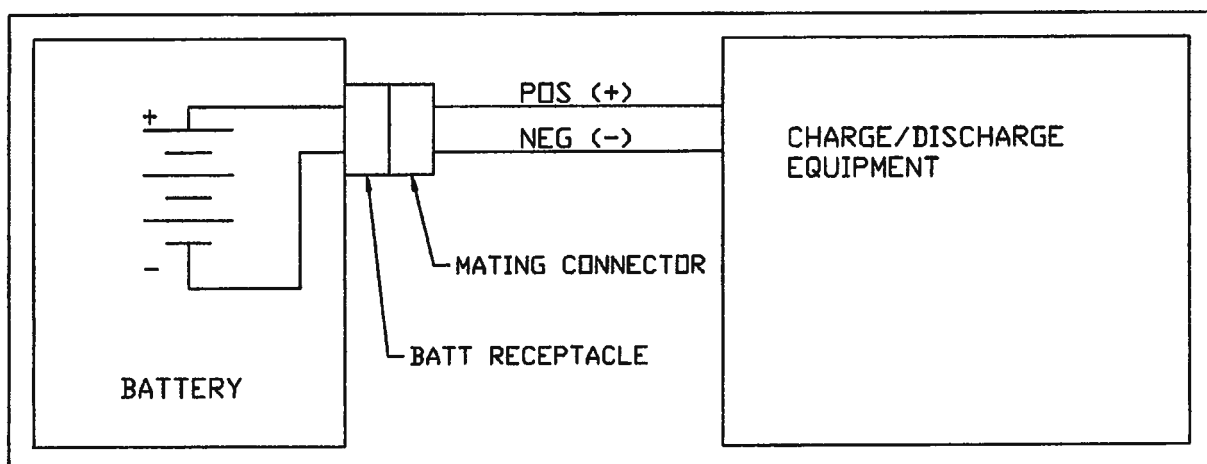

Figure 101. Test Set Up for RG Series Main Batteries
- A. Refer to Figure 101 for a schematic of the test set up.